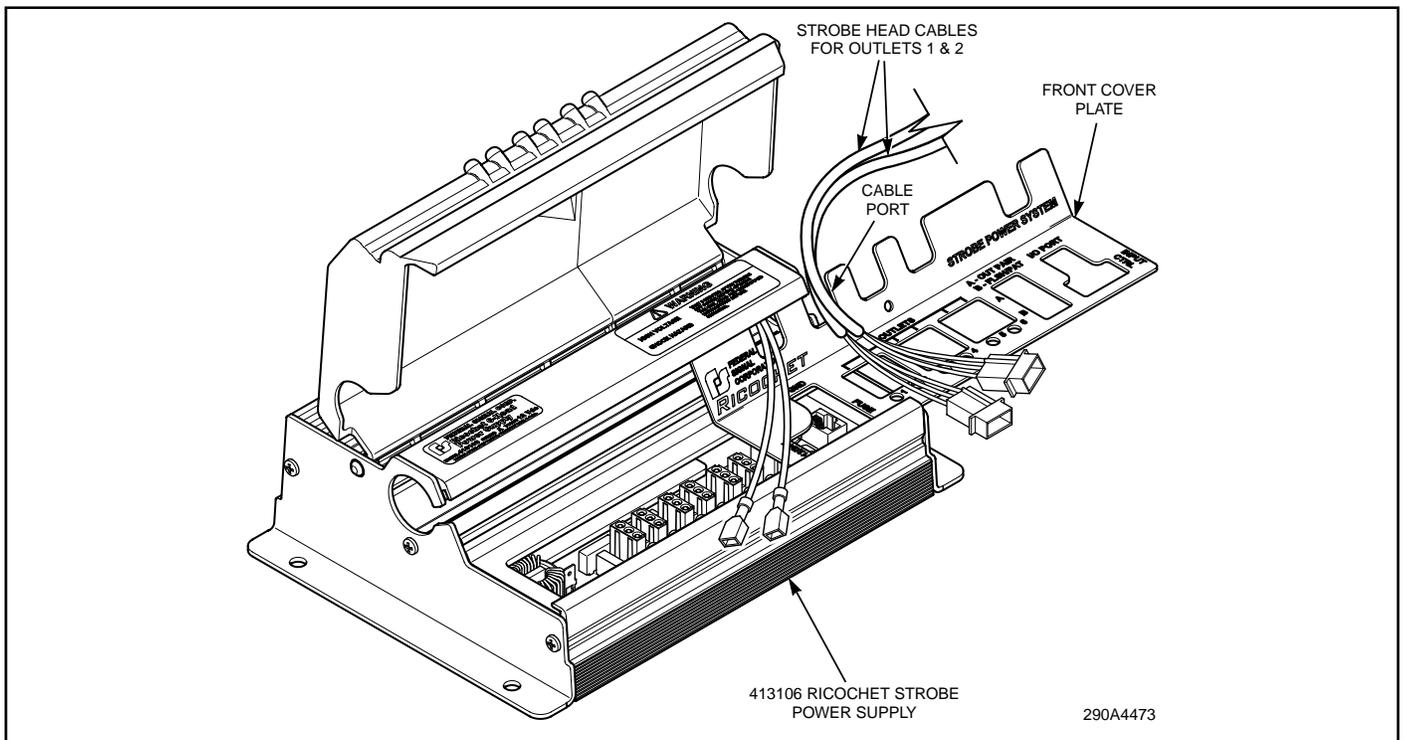

Figure 5.
12. Insert strobe head cables for outlets 1 & 2 into the next slot. Slide cover plate into extruded housing as described in step 10. See figure 5.